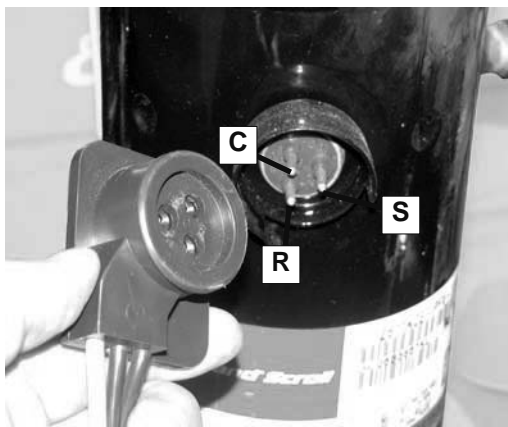

Figure 5-3 Compressor Connection
- C. Pull the compressor connector plug off the compressor. The compressor has three terminals; C (common), R (run), and S (start). (Refer to Figure 5-3)
- G. Connect the electrical plug to the compressor. The plug is keyed and will only install one way. (Refer to Figure 5-3)